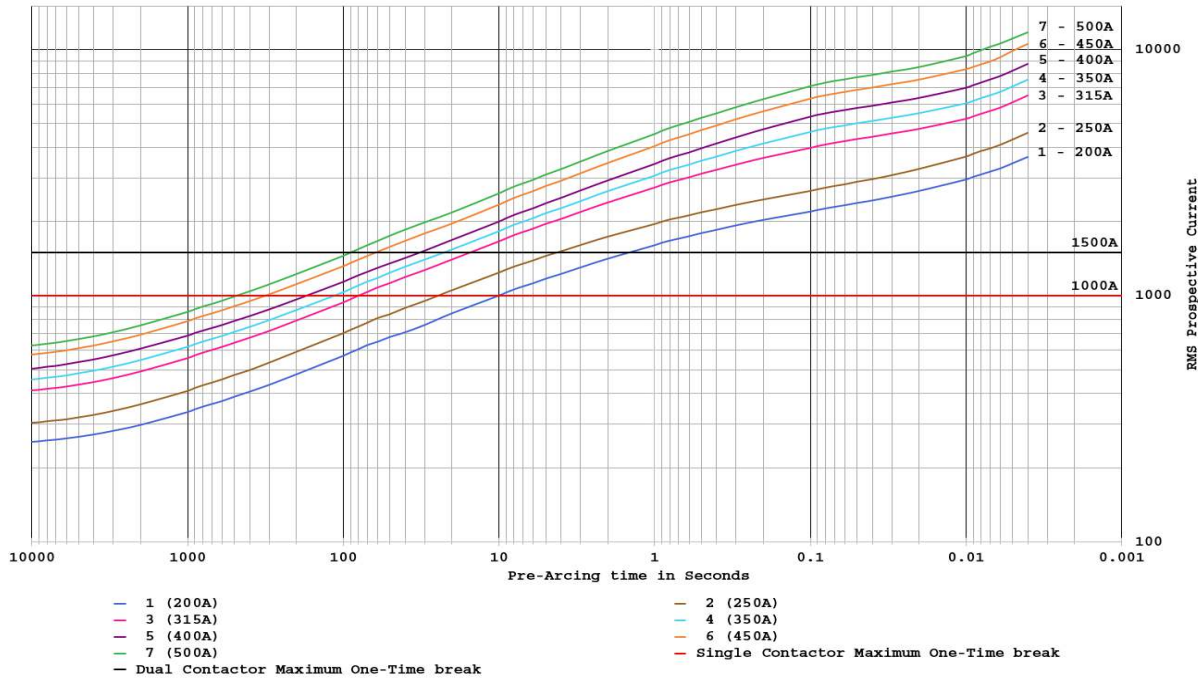

Figure 9. Fuse Response to Short Circuit Faults – Current Cut-Off Diagram
- I_{tcc} is the pre-arching prospective current at the duration equivalent to the length of the maximum continuous current (from Figure 9, "Fuse Response to Short Circuit Faults – Current Cut-Off Diagram").